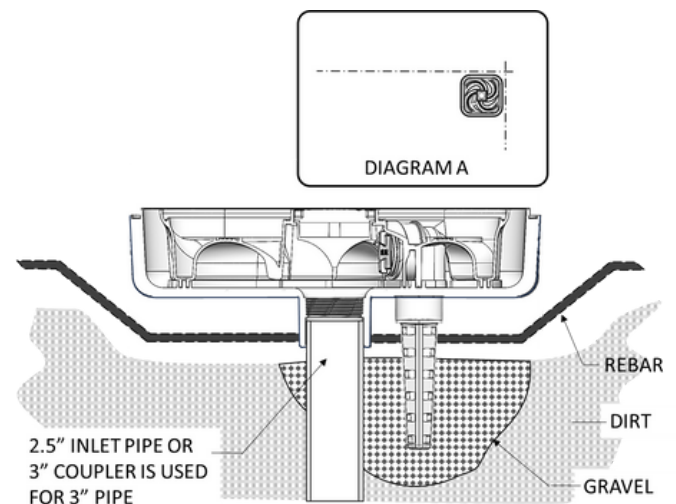

Figure 9
- c. Align Hydrostatic Valve:** Be certain Hydrostatic Valve Well Point is installed – be sure it is located in the area excavated for it in Step 2. (See Figure 9).
- d. Glue the Drain:** Glue the drain in place making certain the sides are aligned with the sides of the pool (See Figure 9; Diagram A) and the height is where it was in Step 6b.
- e. HSV Backfill:** Place gravel around Hydrostatic Valve Well Point. (See Figure 9).